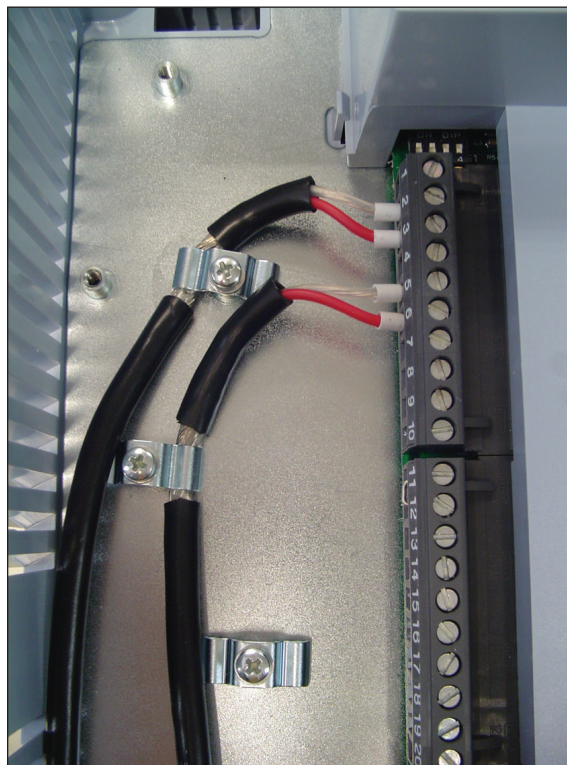

Figure 3.16 - Example of control wiring shield connection
4) The correct connection of the cable shield is showed in the figure 3.16.